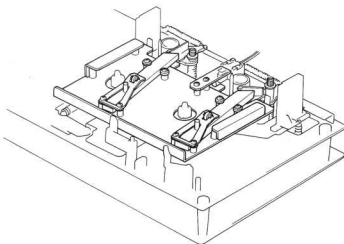

Fig. 5.9
Remove Head Mount Base Ass'y referring to item 3.28. Refer to Figs. 5.9 and 5.10.
(1) Supply Tape Guide Height Adjustment
(2) Take-up Tape Guide Height Adjustment